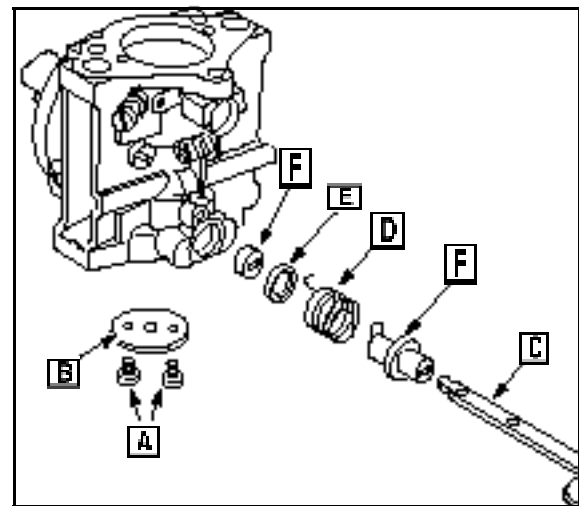

Fig. 78
10. Remove choke plate screws ([A] Fig. 78).
11. Remove choke plate (B), shaft (C), spring (D), washers (if used), seal (E), bushings (F) Fig. 78).